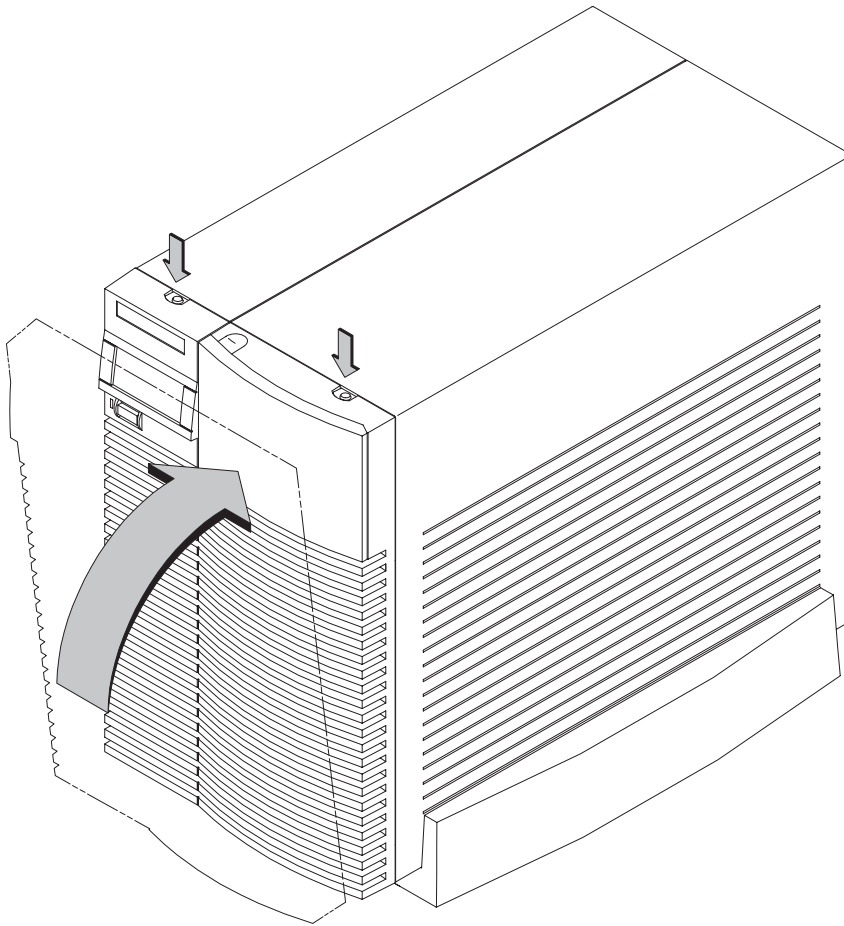

Figure B-2. Replacing the Front Panel
2. Swing the front cover up, and push it firmly into the workstation housing. The front panel edges automatically align with the workstation housing, and the top latch buttons pop up into position. See Figure B-2.